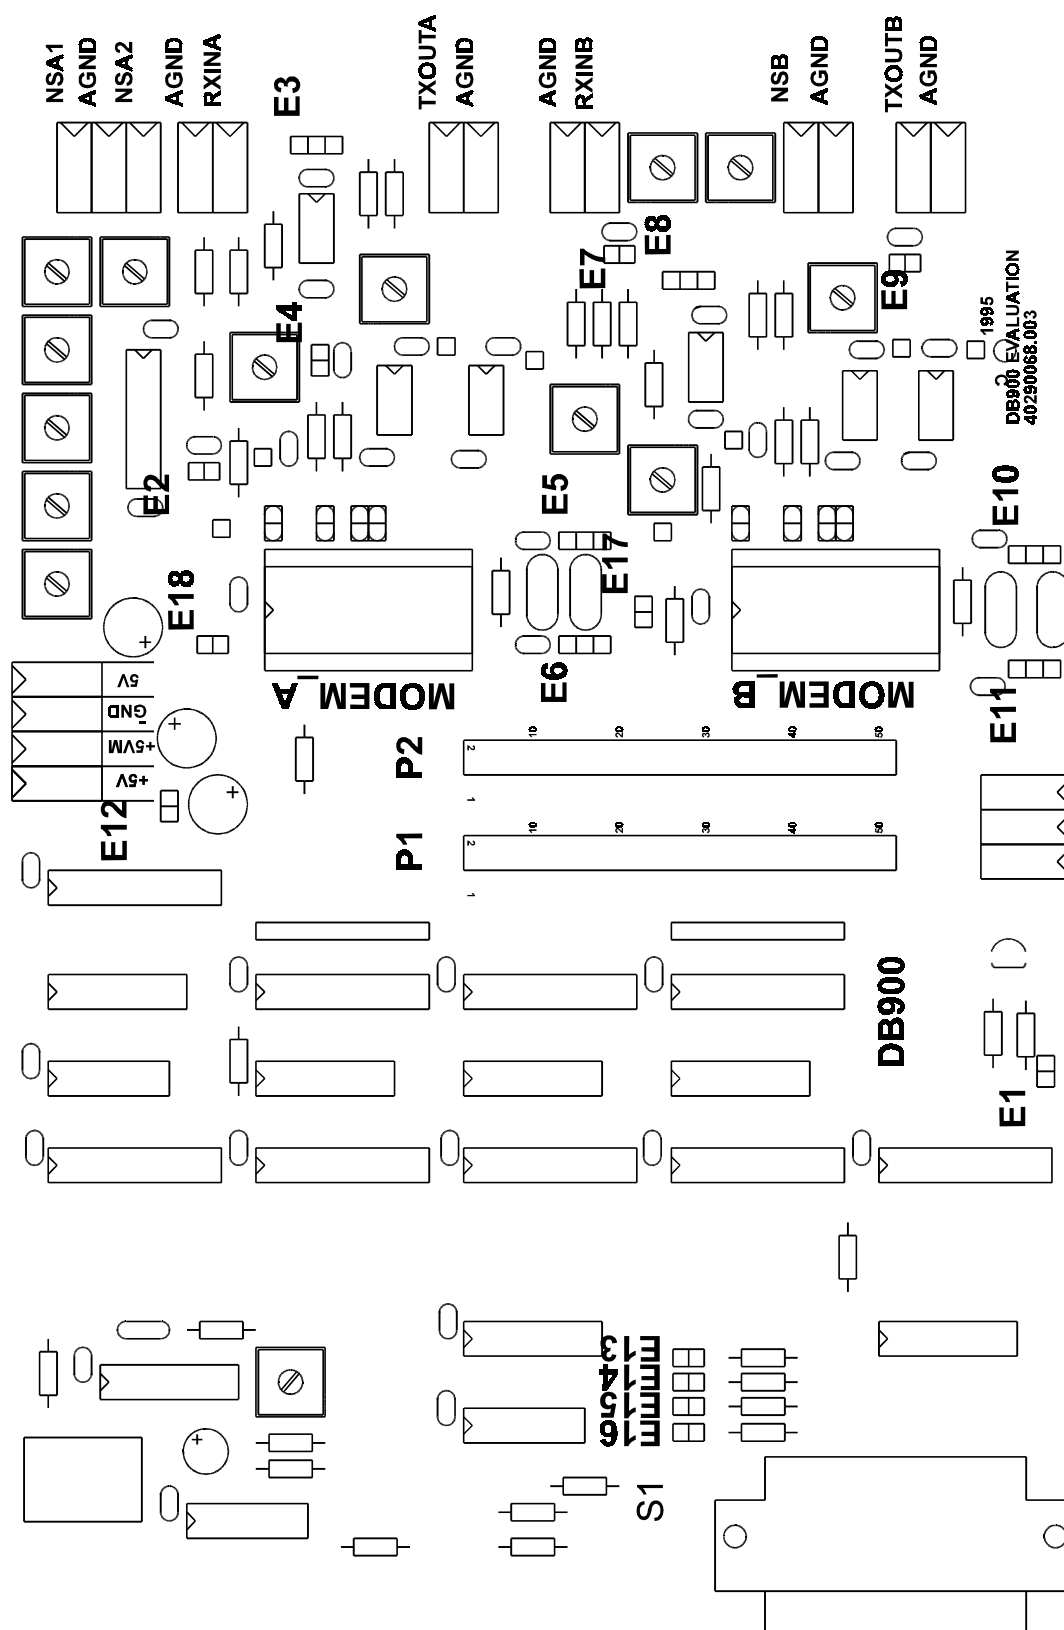

Figure 10: Jumper Locations
Several jumpers are provided to select various functions. They are described in Table 12 and their positions indicated in Figure 10. Section 3.2.4 also indicates jumper functions in schematic form. In setting E5, E6, E10 and E11, it should be noted that crystal settings are application, not device, dependant. If capacitors C3, C7, C12 or C16 are not installed, some of the jumpers will not operate as described.
- If CMX969, FX919B or FX929B modems are installed, change jumpers E5, E6, E10 and E11 to position B. (For more information, see Table 12 and Figure 10)